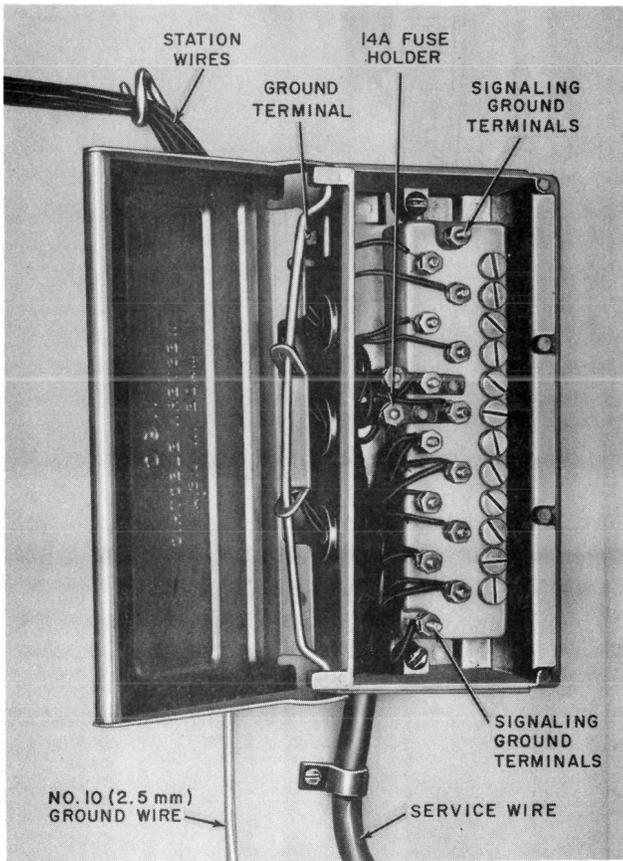

Fig. 13—116C Protector
3.15 The **116C protector** (Fig. 13) consists of a nonconductive base containing twelve binding posts, twelve 2A1A protector units, and two binding posts for signaling ground connections. The base is housed in a metal container with a hinged metal cover. The metal housing is equipped with a clamp for the station ground wire. The wire used to ground the 116C protector should be